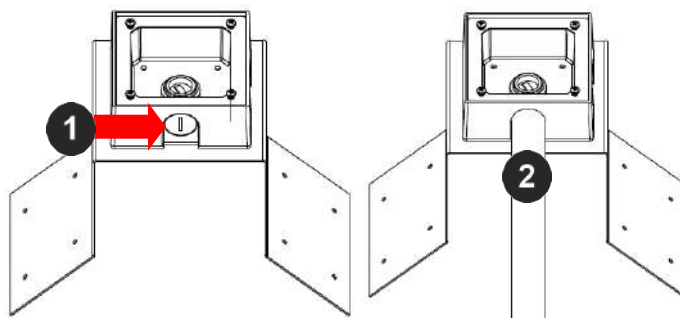

Figure 1: Attach conduit to SV-JBA junction box adapter
3. Attach the AV-JBA (Junction Box Adapter) to the Corner Mount Adapter (Figure 1).
4. Remove the conduit plug on the junction box adapter and connect $\frac{3}{4}$ " NPT conduit to the junction box adapter (Figure 1).